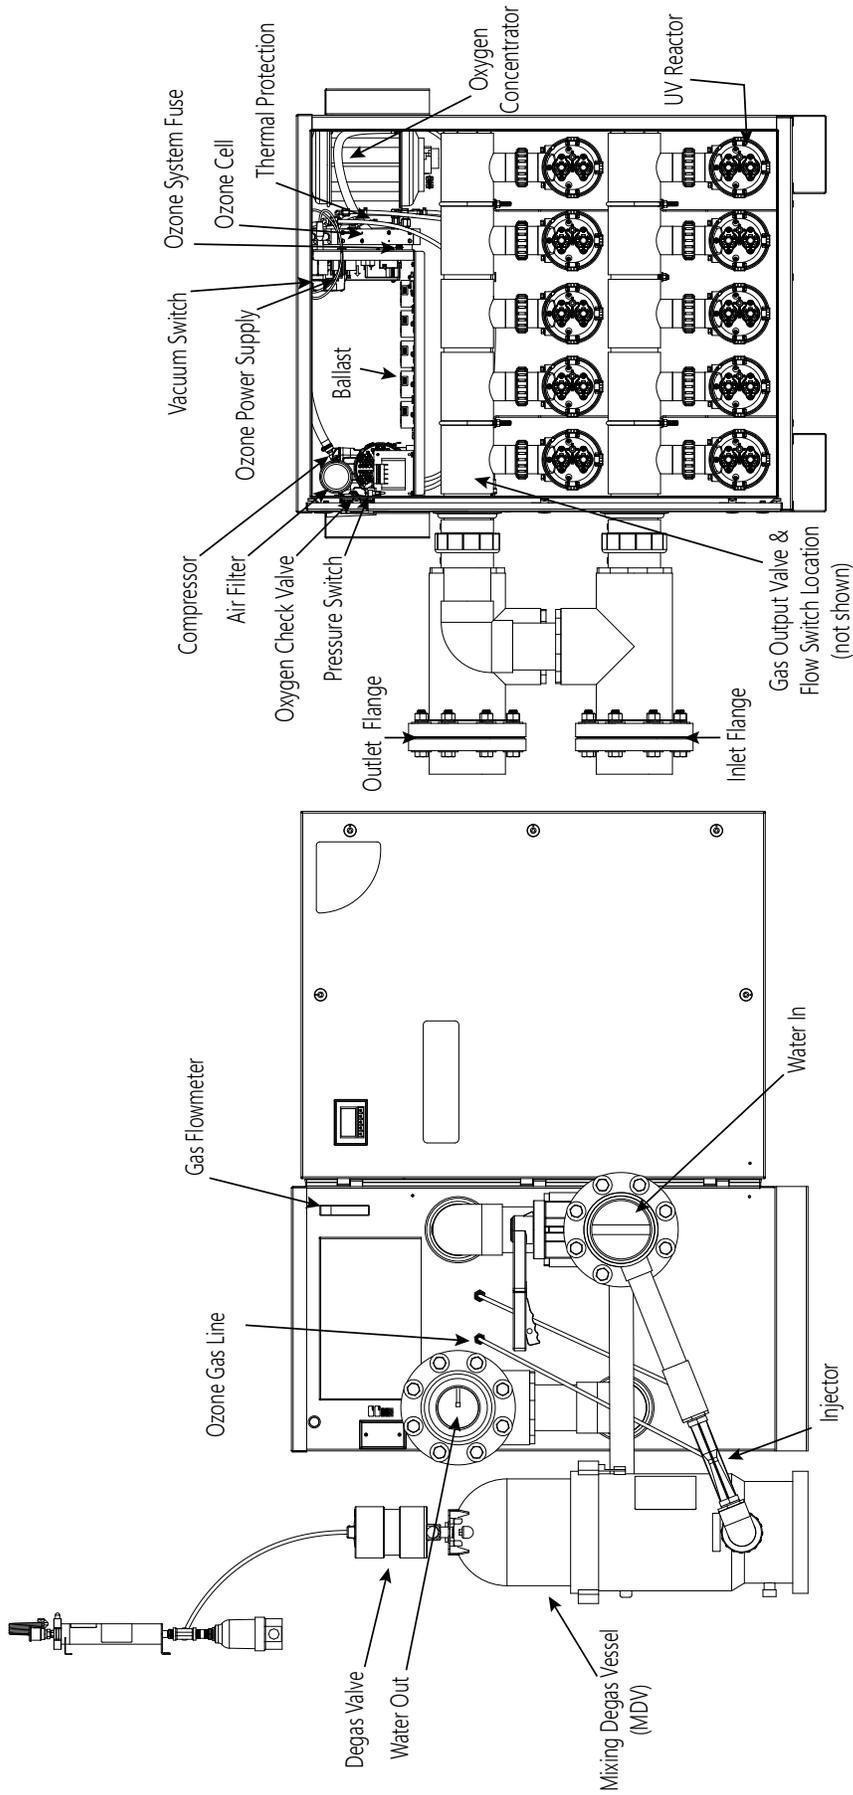

Figure 4: AOP Pro Electro-Mechanical Overview
⚠ CAUTION Disconnect power before performing service. Refer to the **IMPORTANT SAFETY INSTRUCTIONS** displayed in the front of this manual. Refer to **Figures 4, 5, and 6**.
3. Open the door and locate the bottom quartz tube in each UV reactor (Refer to *Figure 4*). Remove these quartz tubes to drain the remaining water from the UV reactor(s).